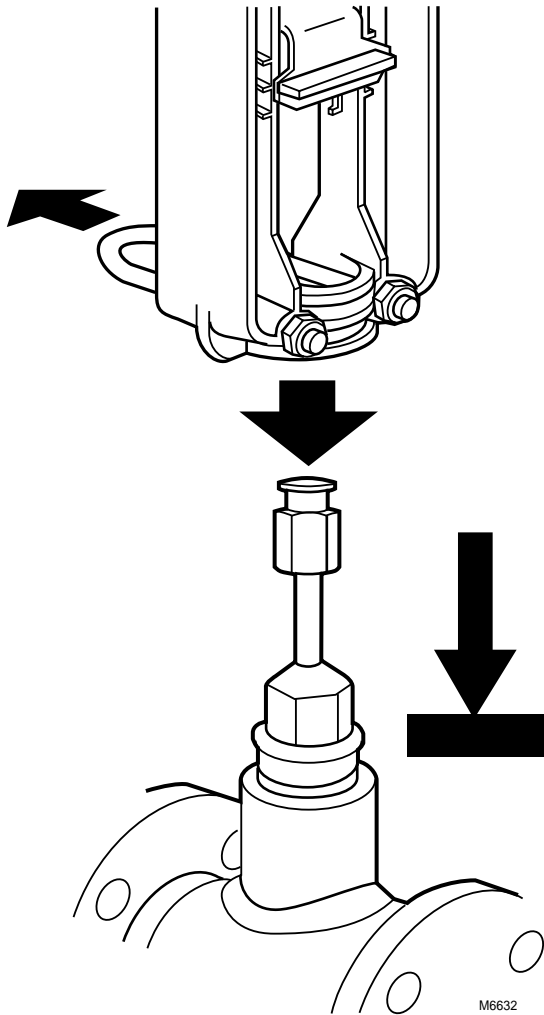

Fig. 2. Attaching the actuator to the valve collar.
1. Place the actuator on the valve with the U-bolt around the valve collar. See Fig. 2.